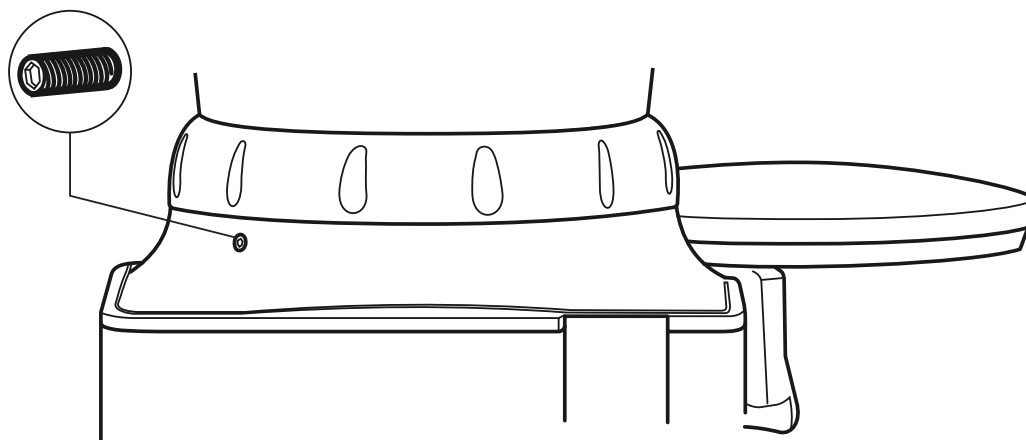

Fig4.5
- Fasten the hopper to the appliance body by means of the supplied 2mm Allen screw and key. (fig.4.5) Make sure that the screw is inserted completely through the back hole on the hopper's crown.